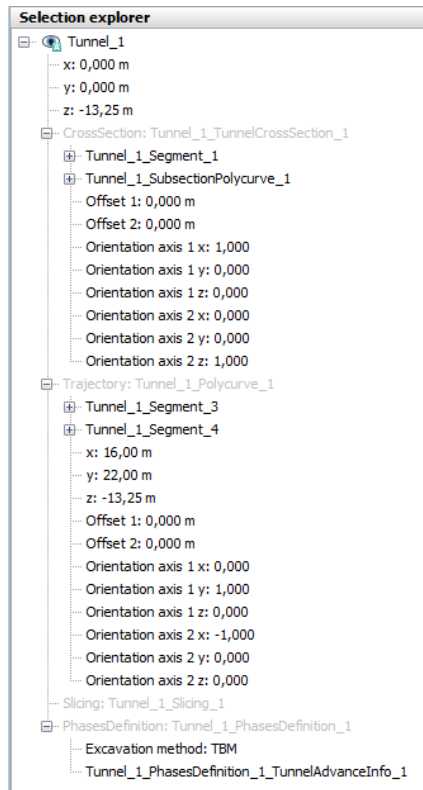

Figure 6.3 Insertion point of the tunnel
- In the *Selection explorer* set the insertion point of the tunnel to (0 0 -13.25) (Figure 6.3).